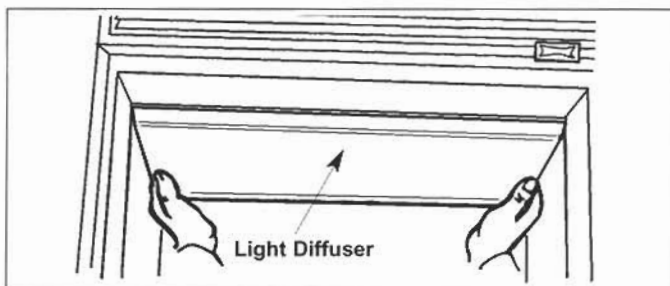
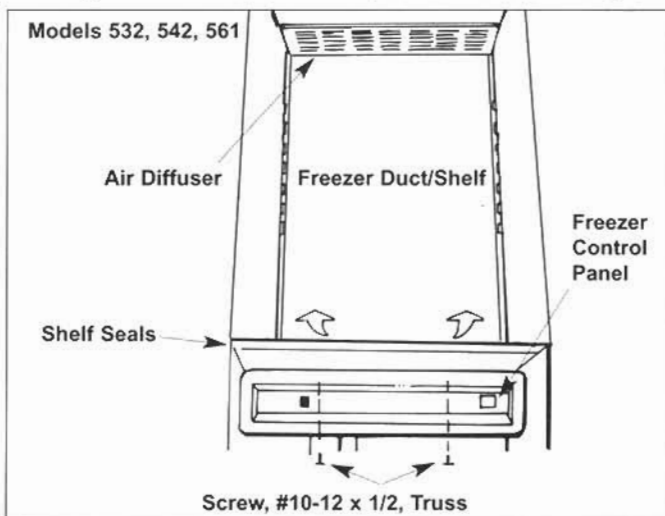
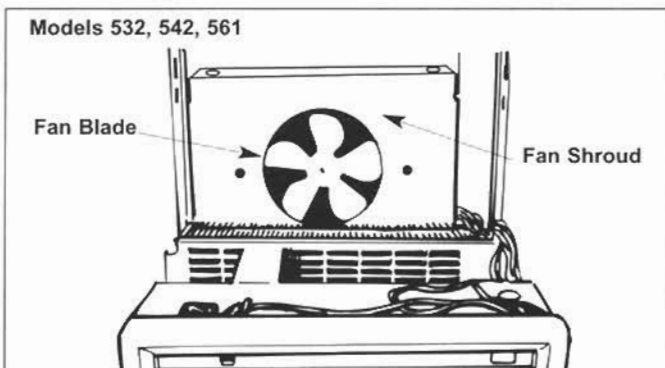

Figure 2-24. Light Diffuser
Figure 2-30. Freezer Duct/Shelf
Figure 2-31. Freezer Fan
1. Remove the overhead light diffuser by grasping the back edge and pulling forward to release, then drop the front edge out of the channel. (Figure 2-24).
1. To access the freezer evaporator fan motor, remove the freezer duct/shelf (Figure 2-30). Remove the two #10-12 x 1/2 screws from the cover and raise up. Disconnect wire harness and continue to raise up until the top lip of the cover releases from the air diffuser. The fan motor is mounted behind the evaporator on the freezer fan shroud (Figure 2-31).
2. To remove fan, remove the screws (Figure 2-24) from the top of the shroud and pull the shroud forward. The fan assembly will now lift straight up from behind the evaporator (Figure 2-31).
3. Reinstall the freezer duct/shelf (Figure 2-30). Insert the top lip of the cover behind the air diffuser and then lower it. Be sure the cutouts in the cover line up with the tabs at the back.